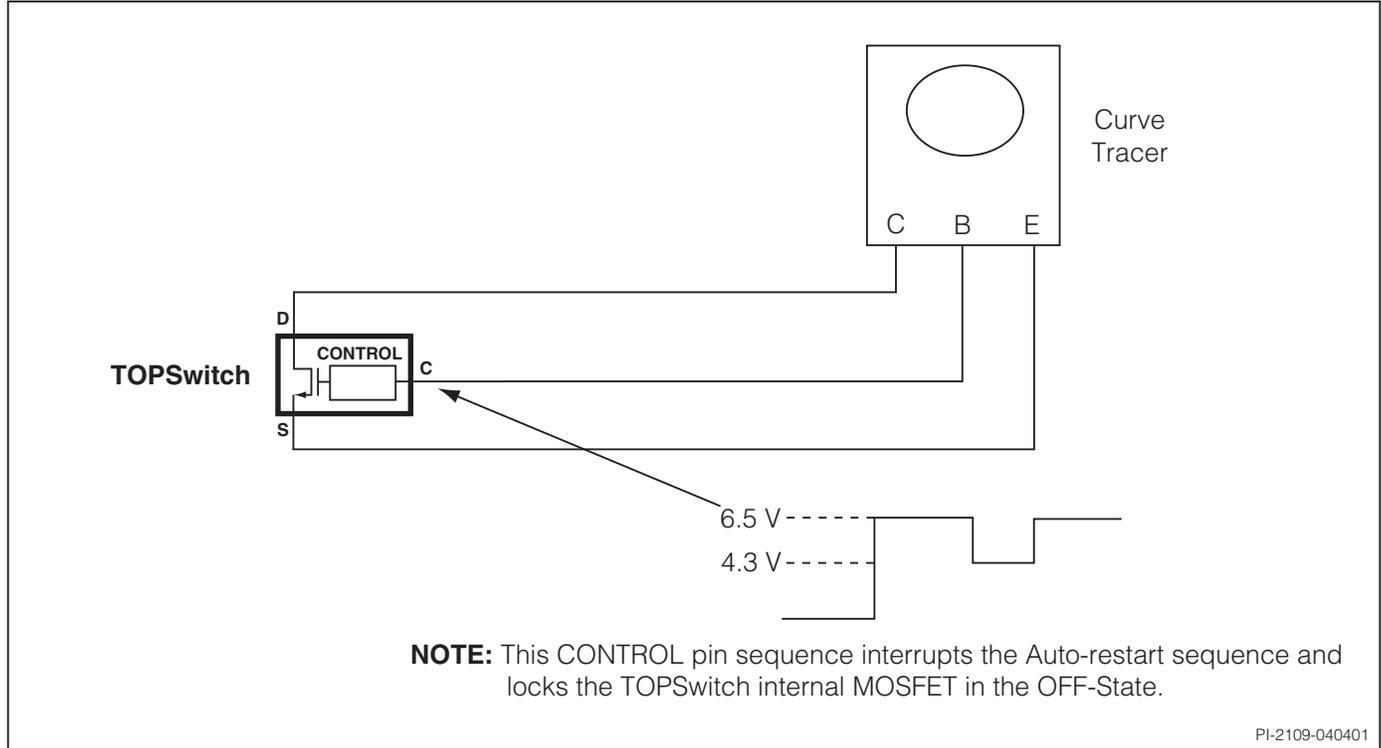

Figure 15. Breakdown Voltage and Leakage Current Measurement Test Circuit.
- B. The breakdown voltage and leakage current measurements can be accomplished as shown in Figure 15 by using the following sequence: